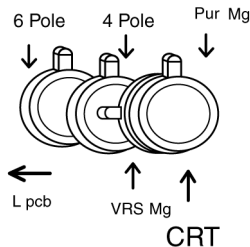

Fig. 11
- Set DY to CRT not to tilt up and down and left and right deflection. (Fig. 11)